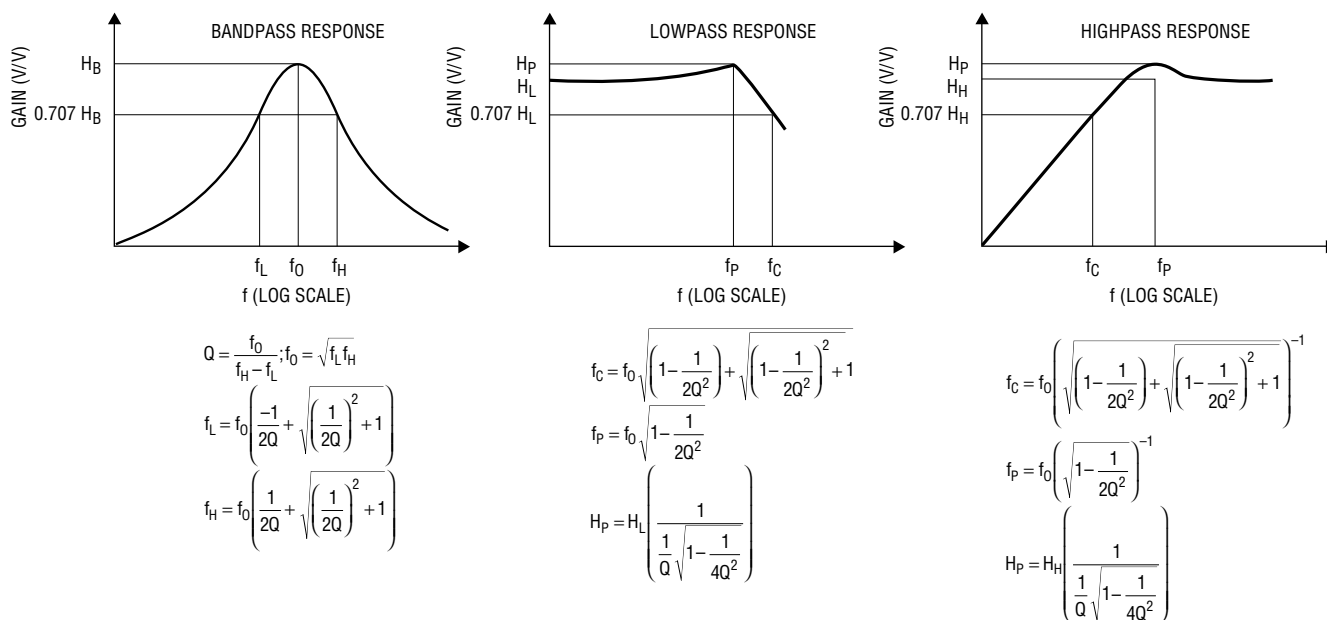

Figure 4. Characteristics of Standard 2nd Order Filter Responses
Figure 4 shows further details of 2nd order lowpass, bandpass and highpass responses. Configurations to obtain these responses appear in the next three sections.
at frequency f_0 , and for $Q > 0.707$, a gain peak occurs at a frequency below f_0 , as shown in Figure 4.
$\omega_0 = 2\pi f_0$ and Q are set by R_2 and R_Q as described previously in Setting f_0 and Q . When Z_{IN} is a resistor of value R_{IN} , a bandpass response results at the V1 output (Figure 6a) with a gain parameter $H_B = R_Q/R_{IN}$. Alternatively, a capacitor of value C_{IN} gives a bandpass response at the V2 output (Figure 6b), with the same $H_{BP}(s)$ expression, and the gain parameter now $H_B = (R_Q/10k\Omega)(C_{IN}/159pF)$. This transfer function has a gain magnitude of H_B (its peak value) when the frequency equals f_0 and has a phase shift of 180° at that frequency. Q measures the sharpness of the peak (the ratio of f_0 to $-3dB$ bandwidth) in a 2nd order bandpass function, as illustrated in Figure 4.
Parameters $\omega_0 = 2\pi f_0$ and Q are set by R_2 and R_Q as above. The highpass gain parameter is $H_H = C_{IN}/159pF$. For a 2nd order highpass response the gain magnitude at frequency f_0 is QH_H , and approaches H_H at high frequencies ($f \gg f_0$). For $Q > 0.707$, a gain peak occurs at a frequency above f_0 as shown in Figure 4. The transfer function includes a sign inversion.
Standard 2nd order filter algebra, as in Figure 4 and the various transfer-function expressions in this data sheet, uses a center frequency parameter f_0 (or ω_0 , which is $2\pi f_0$). f_0 can also be measured in practical ways, including:
- The geometric mean of the -3.01dB gain frequencies in a bandpass ($\sqrt{f_L f_H}$ in Figure 4)